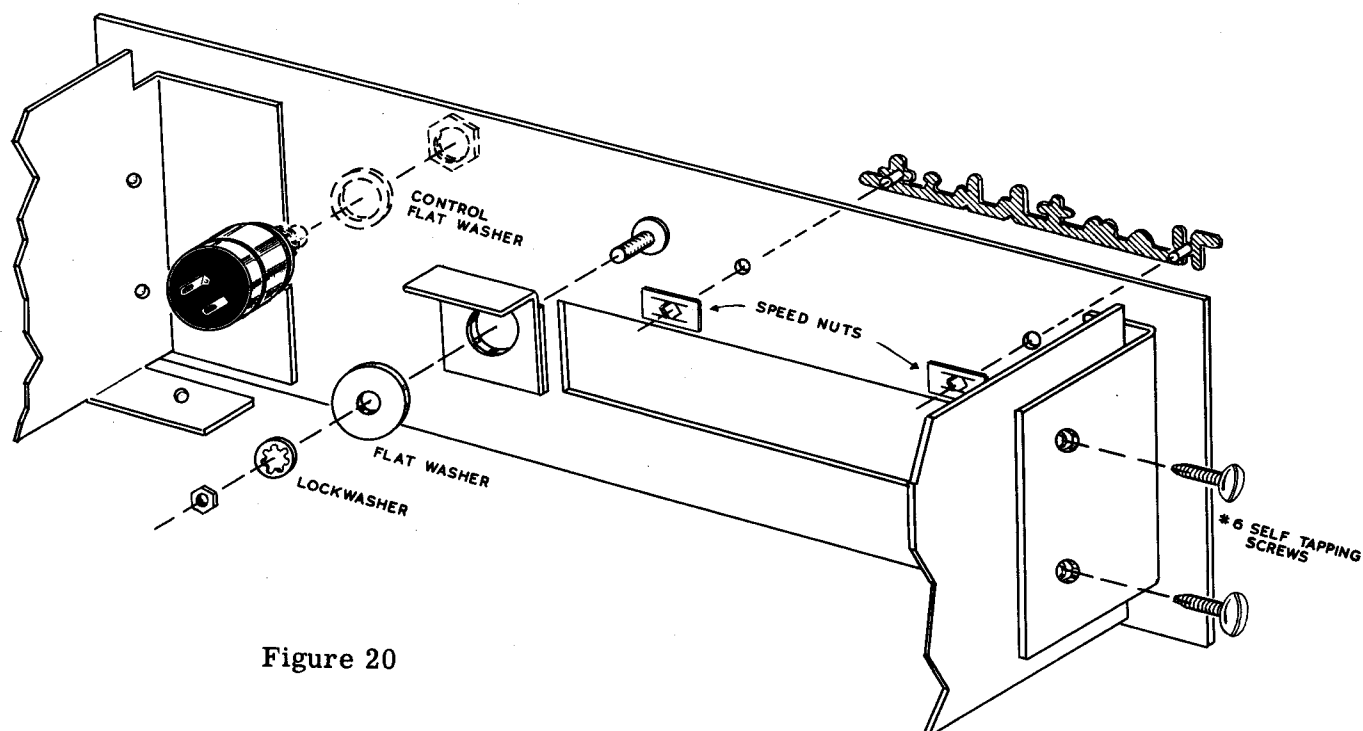

Figure 20
- (✓) Place the panel reinforcing bracket over the stud at the center of the front panel, as shown in Figure 20. The stud goes through the bracket, a large 9/16" flat metal washer, a lockwasher and nut. Tighten in place with the bracket flange slightly below and parallel with the top of the panel.
- ( ) Install the top cover. Before sliding in place, engage the free grommet previously installed on the line cord in the slot provided at one end of the cover. Engage the front lip of the cover with the panel clamp as shown in Figures 20 and 22 and let the cover down until the bottom flanges rest on the bottom cover. Fasten in place by inserting two 6-32 self-tapping screws through the two small holes in the top rear flange of the shell. These screws will pass through slots in the rear panel and thread into the end brackets.